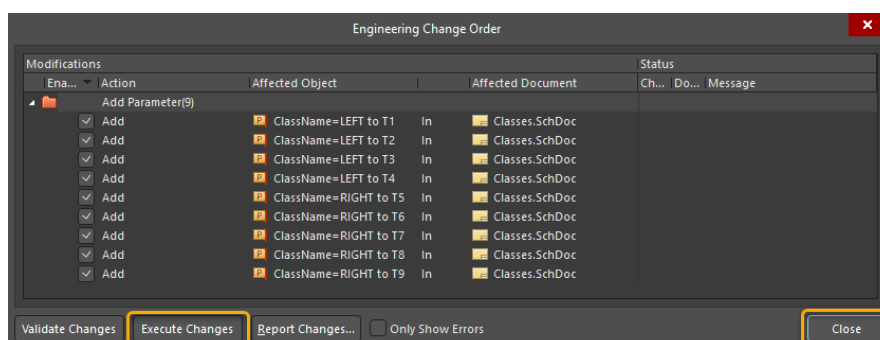

Figure 7. Engineering Change Order
40. Select **Accept Changes (Create ECO)** to generate an ECO list, Figure 7.